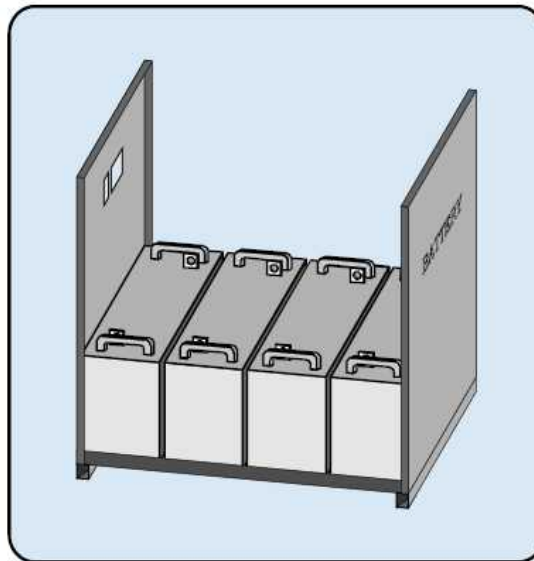

Figure 3
2. According to the accompanying wiring diagram and list, laying the batteries on the base of the battery cabinet, connecting the wires, locking the wires on battery poles. Shown as Figure3.